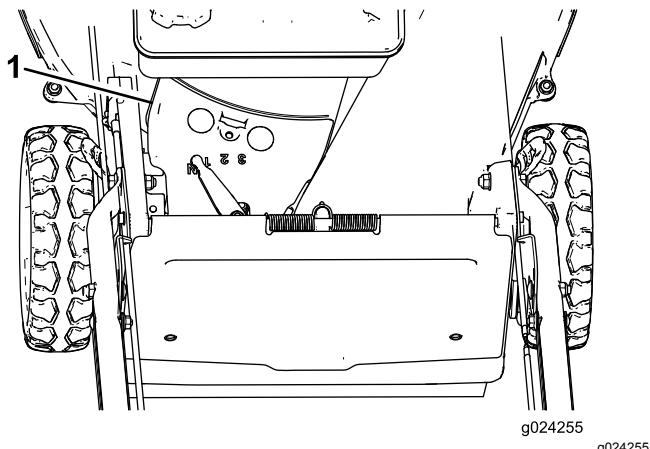

Figure 37
3. Remove the belt cover (Figure 37) from the mower housing.